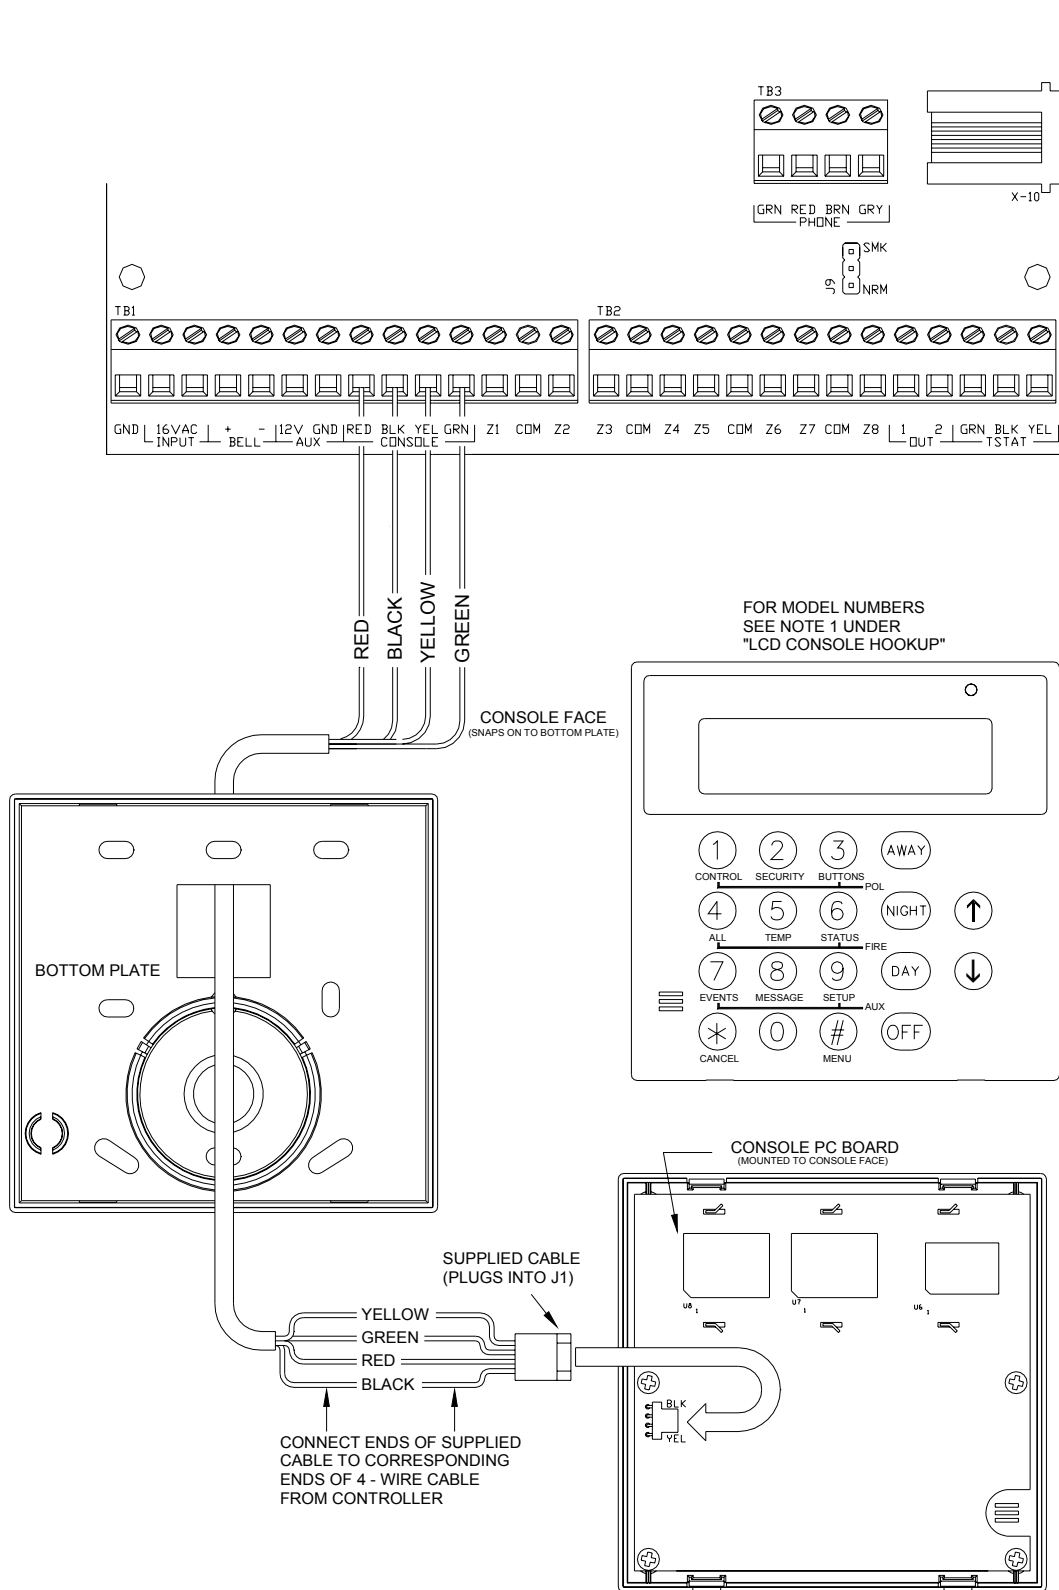

FIGURE 7 - CONSOLE CONNECTIONS
2. Use 4-conductor 22-gage wire, 1000 feet maximum length. Consoles can be homerun or daisy chained. This length shall be divided by the total number of consoles at the end of the run. For example, for 4 consoles, the maximum length reduces to 250 feet. All LCD Consoles are connected to the same 4 wires, RED (+12), BLK (Ground), YEL (A), GRN (B).
5. Refer to **FIGURE 7 (CONSOLE CONNECTIONS)** for this configuration.